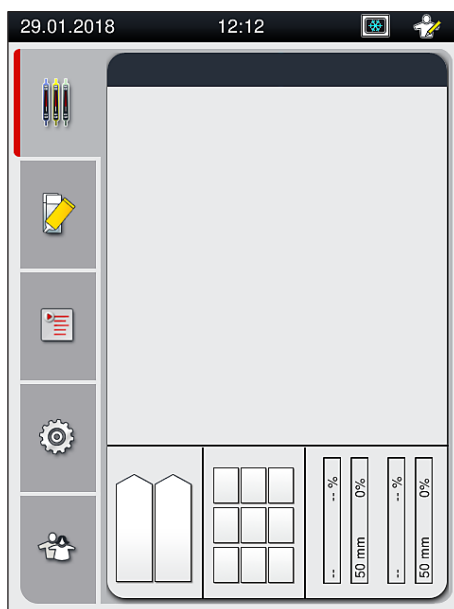

Fig. 13
7. After completing the initialization phase, the **Main menu** (→ Fig. 13) appears on the screen.